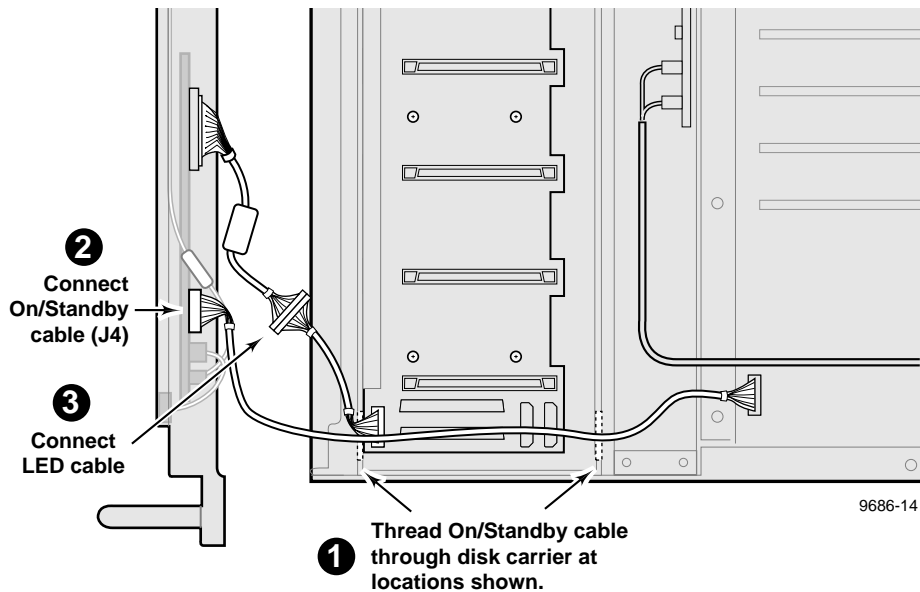

Figure 19. Routing the LED and On/Standby switch cables
1. Locate the LED cable at the bottom right of the drive tray. Feed the LED cable through the slot in the corner of the drive tray and through the front chassis slot (❶ in Figure 19)
2. Thread the ribbon cable for the On/Standby switch through the slot in the rear of the tray and on through the slot out the front of the tray as shown in Figure 19.
3. Plug the On/Standby cable to the two-row set of pins. Ensure that the marked pin 1 on the cable connector is aligned with the marked pin 1 on the board connector.(❷ in Figure 19).
4. Plug the LED cable onto the single-row connector pin on the front panel circuit board. Ensure that the marked pin 1 on the cable connector is aligned with the marked pin 1 on the board connector (❸ in Figure 19).